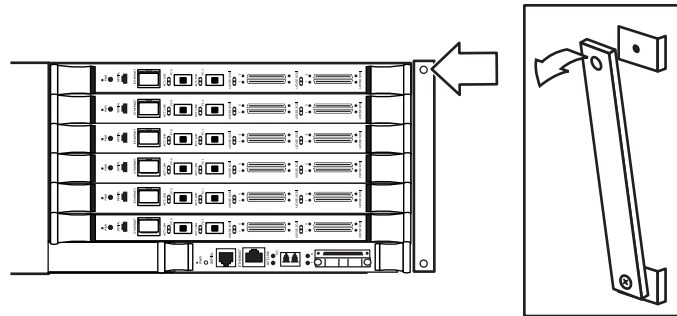

Figure 43: Preparing the cable restraint bracket
1. Remove the top screw from the cable restraint bracket and loosen the bottom one to prepare for cable routing (see Figure 43).